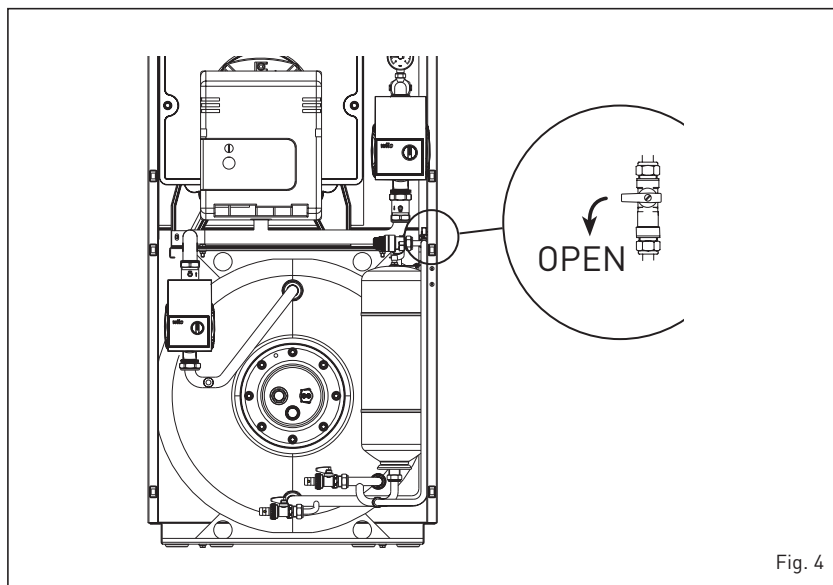

Fig. 4
2.2.1 System filling (fig. 4)
the block screw of the shutoff valve. Upon completing the filling, put the screw back to its original position. At the end of the operation make sure that the tap is closed (fig. 4).